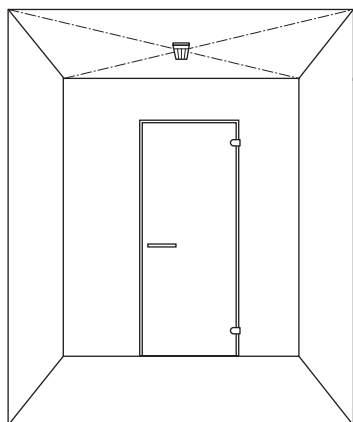

Fig. 7
1. The temperature sensor should be mounted on the ceiling in the middle of the cabin. See fig. 7 for details.